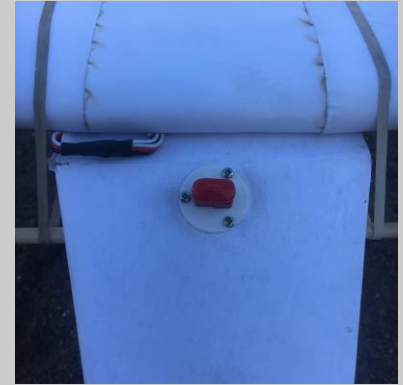

Figure 2: Red Arming Plug
- Figure 2 shows the integrated Red Arming Plug that is compliant with the SAE regulations.